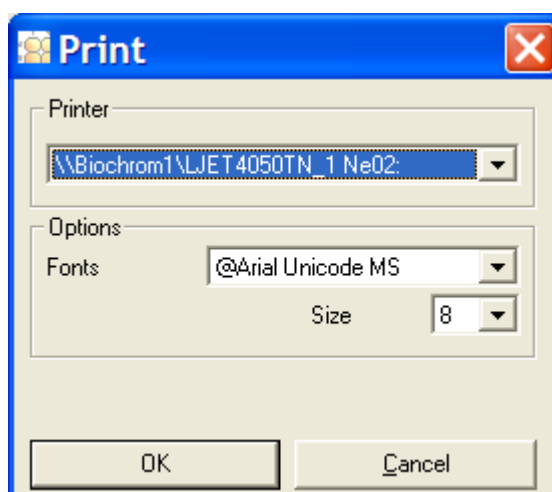

Figure 7-22: Print chosen from Setup menu
1. From the Setup menu, choose **Print**. Print appears (Figure 7-22).